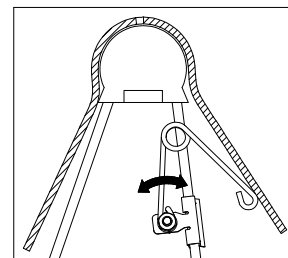

FIGURE E2: Cutaway view of driver side pivot arm and saddle.
2. Adjust the resting angle of your coupler plate by rotating the spring on the driver side pivot arm. Pulling the top of the spring away from the cab will increase the angle of the coupler plate. Set the angle of the coupler so that head will tilt away from the cab when coupling, see figure E2. Tighten the 1/4" nut once the springs orientation is set.